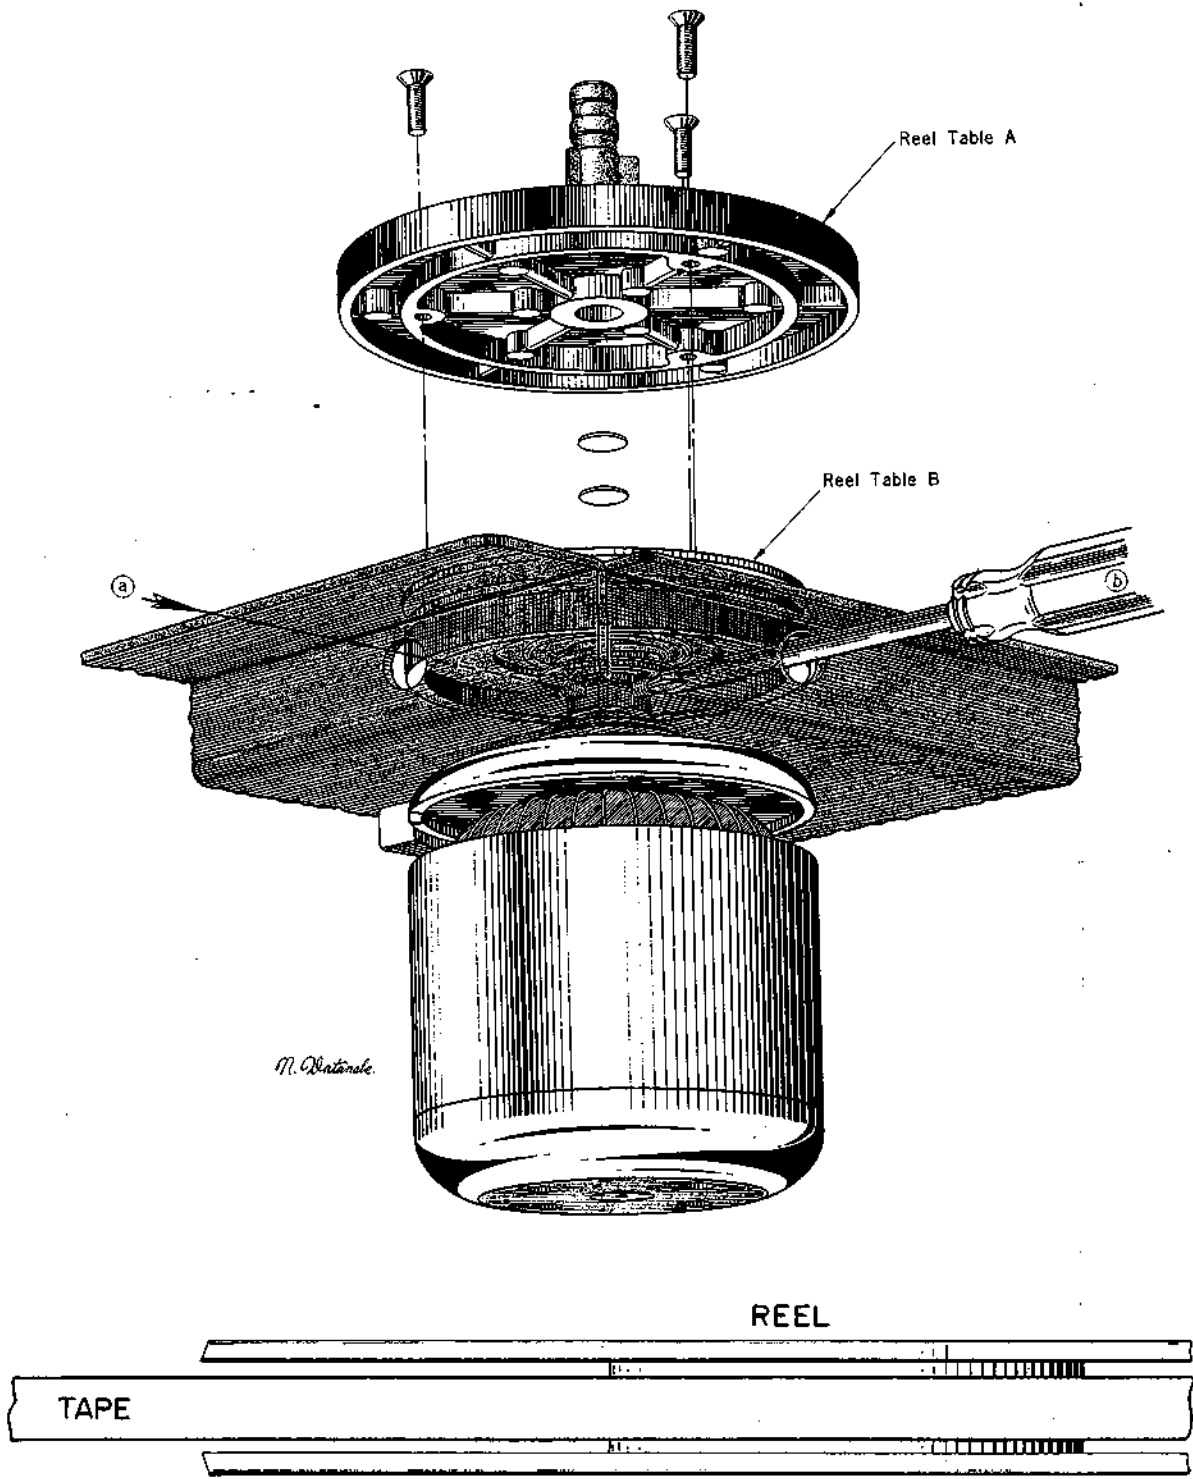

Fig. 4
- 1) As shown in Fig. 4, insert screw driver through the holes in the chassis and loosen Screws (a) and (b).